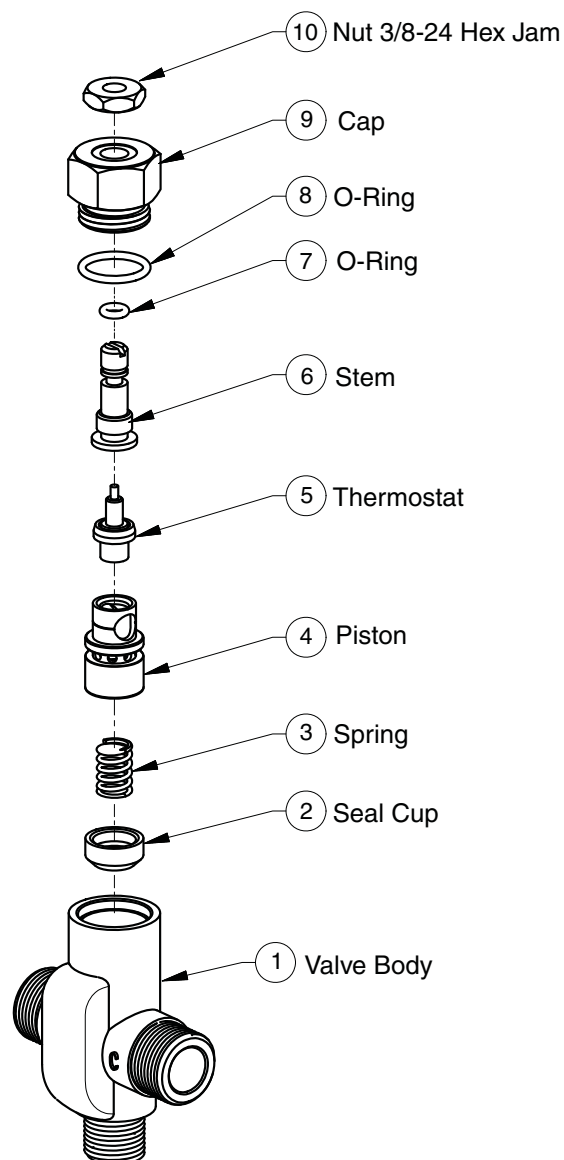

Figure 14
1. Remove the valve's cap and thermostat (see Figure 14 on Page 28).